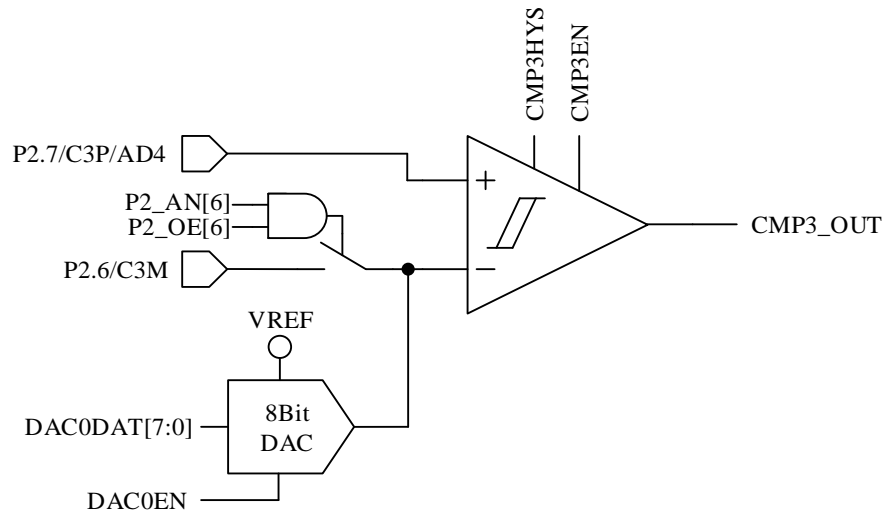

Figure 28-2 Single-comparator Input Mode
- When CMP_CR1[CMP3MOD] = 00, CMP3 works in single comparator input mode. The connection of input and output pins are shown in Figure 28-2.